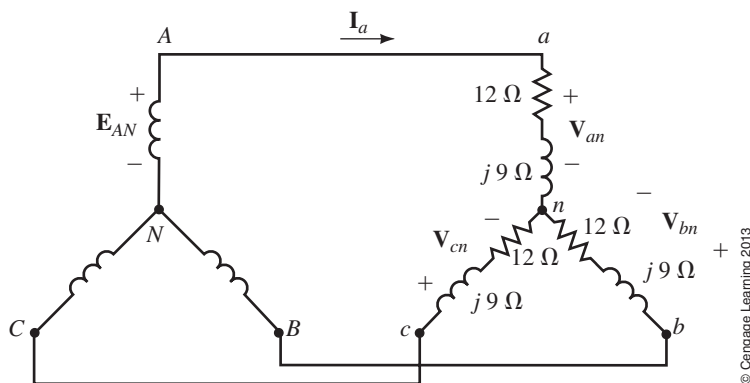

FIGURE 24-47 Balanced system.
34. For Figure 24-47, $E_{AN} = 120 \text{ volts}$.
35. For Figure 24-47, compute the total real, reactive, and apparent power using the P_T , Q_T , and S_T formulas of Table 24-2. (Use $V_L = 207.8$ V rather than the nominal value of 208 V here.) Compare these to the results of Problem 34.